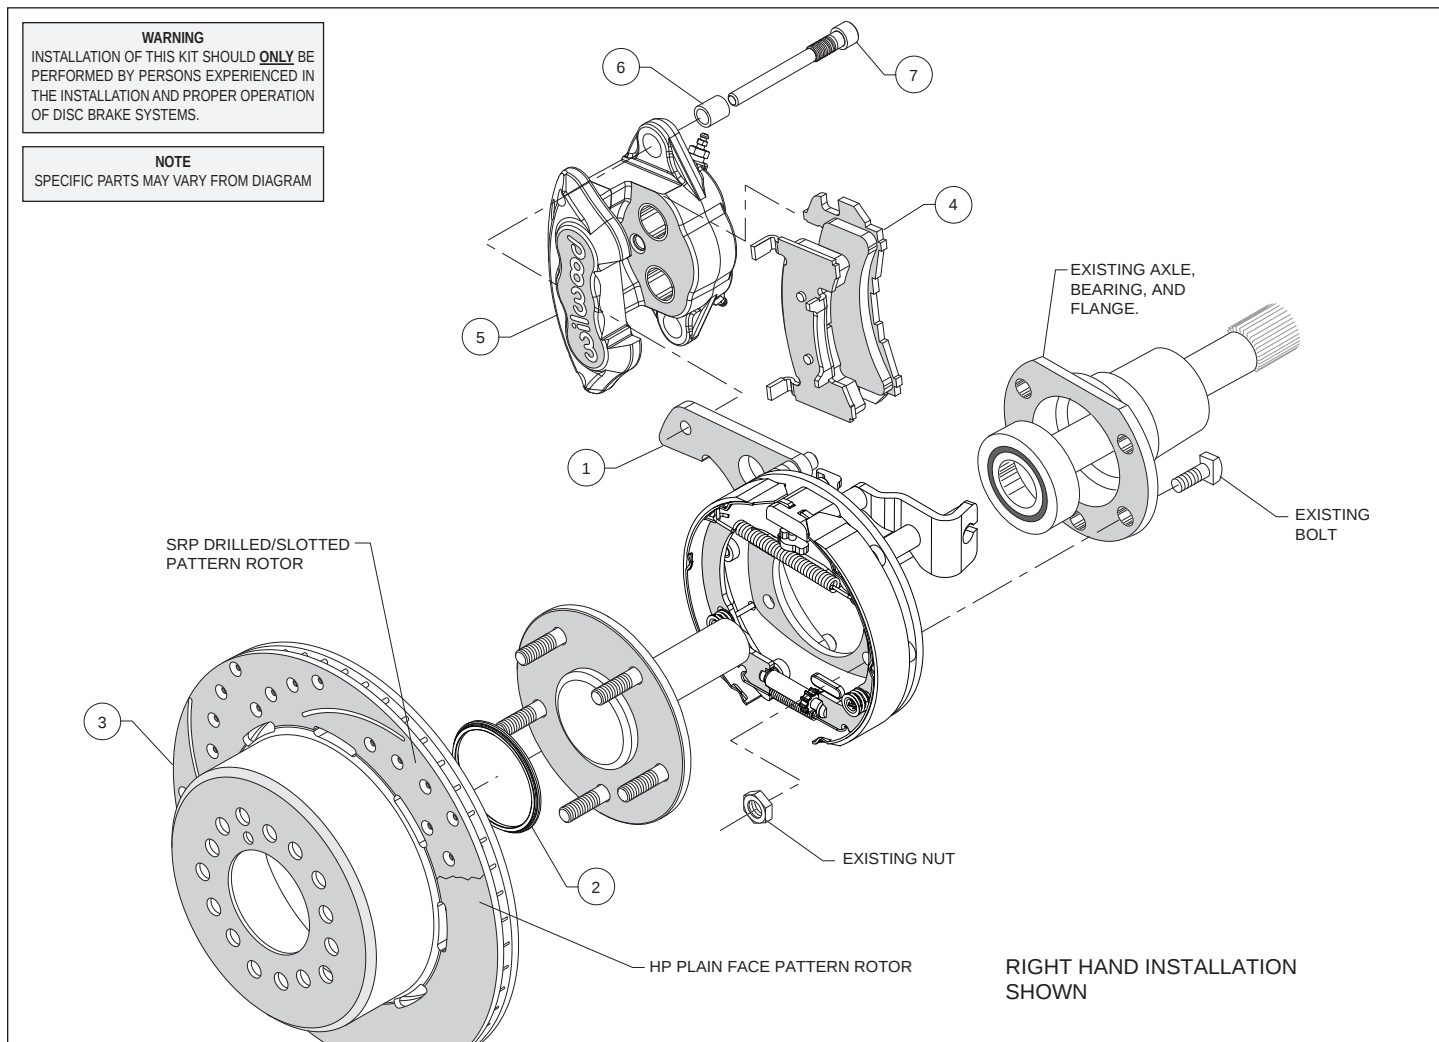

Figure 1. Typical Installation Configuration
Assembly Instructions (numbers in parenthesis refer to the parts list, and Figure 1 on the preceding pages): **CAUTION:** All mounting bolts must fully engage threaded holes.
- Orient the bracket assembly (1) as shown in Figure 1, and mount to the axle housing flange using the Original Equipment Manufacturer (OEM) bolts and nuts, Figure 1. Ensure that the bracket assembly backing plate fits flush against the axle housing flange. Apply red *Loctite*® 271 to the OEM bolt threads and torque to OEM specifications.
- Slide the rotor registration adapter (2) onto the axle register on the axle flange with the smaller O.D. facing toward the rotor/hat (3), Photo 1. Align the correct hole pattern in the rotor/hat with the stud pattern on the axle flange and slide into place, Figure 1 and Photo 2. **NOTE:** The rotor/hat must fit flush against the axle flange or excessive rotor run out may result. Install three lug nuts (finger tight) to keep the rotor/hat assembly in place while continuing with the installation. **NOTE:** Some OEM and after market axles come with stud sizes larger than 0.50" diameter. Verify stud size and have a qualified machine shop drill the bolt circle of the hat/rotor to the correct stud size, if necessary.
- Install the disc brake pads (4) into the caliper (5) with the friction material facing the rotor, as shown in Figure 1 and Photo 3.
- Install sleeves (6) onto slide pin bolts (7). Apply white lithium grease (available from your local auto parts store) to the slide pins/sleeves, as shown in Photo 4. **Do not apply to threads.** Mount the caliper (5) onto the mounting bracket (1) using slide pin bolts, as shown in Figure 1. Torque to 35 ft-lbs.
• **NOTE:** Clevis and cable kits which attach to the parking brake assembly are not included in the Wilwood parking brake kit. Wilwood offers a generic style parking brake cable kit, P/N 330-9371 for this application which can be ordered separately from your local Wilwood dealer or by calling Wilwood customer service at (805) 388-1188.
- Before final installation of the wheel, remove the rubber grommet in the bracket kit assembly (1) and adjust the parking brake shoes outward (using a drum shoe adjustment tool available at your local auto parts store) while spinning the rotor/hat (3) until a slight drag is felt against the hat/drum. Replace the rubber grommet when finished.